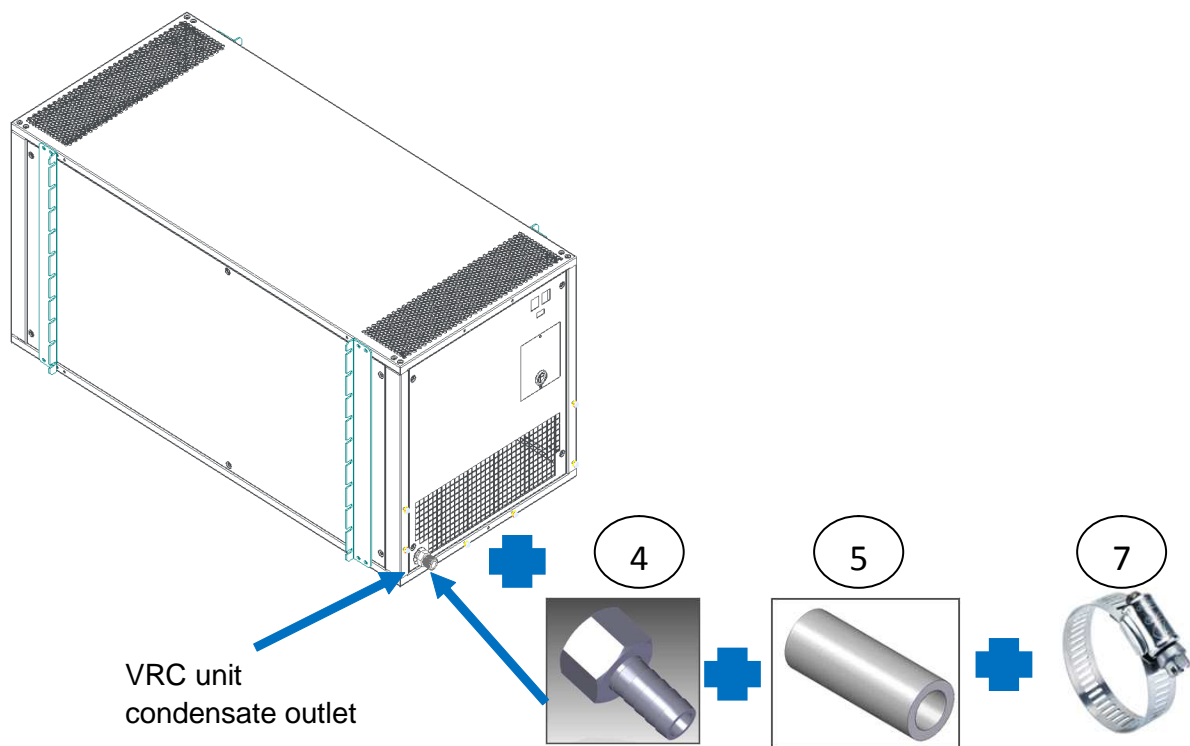

Fig. 1 - Rear view of VRC unit
- 2) Connect item 4 (½ inch barbed NPT Female fitting) to the condensate discharge (½ inch NPT outlet) using appropriate pipe thread sealant. Refer Fig. 1.
- 3) Connect item 5 (½ inch inlet hose) to item 4 (½ inch barbed fitting) and secure with hose clamp item 7 (Fig. 1).